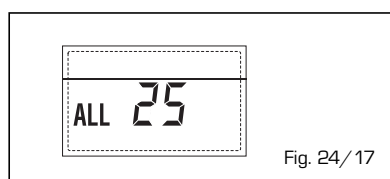

Fig. 24/17
- ANOMALÍA Sonda Auxiliar (S3) "ALL 26" (fig. 24/18)